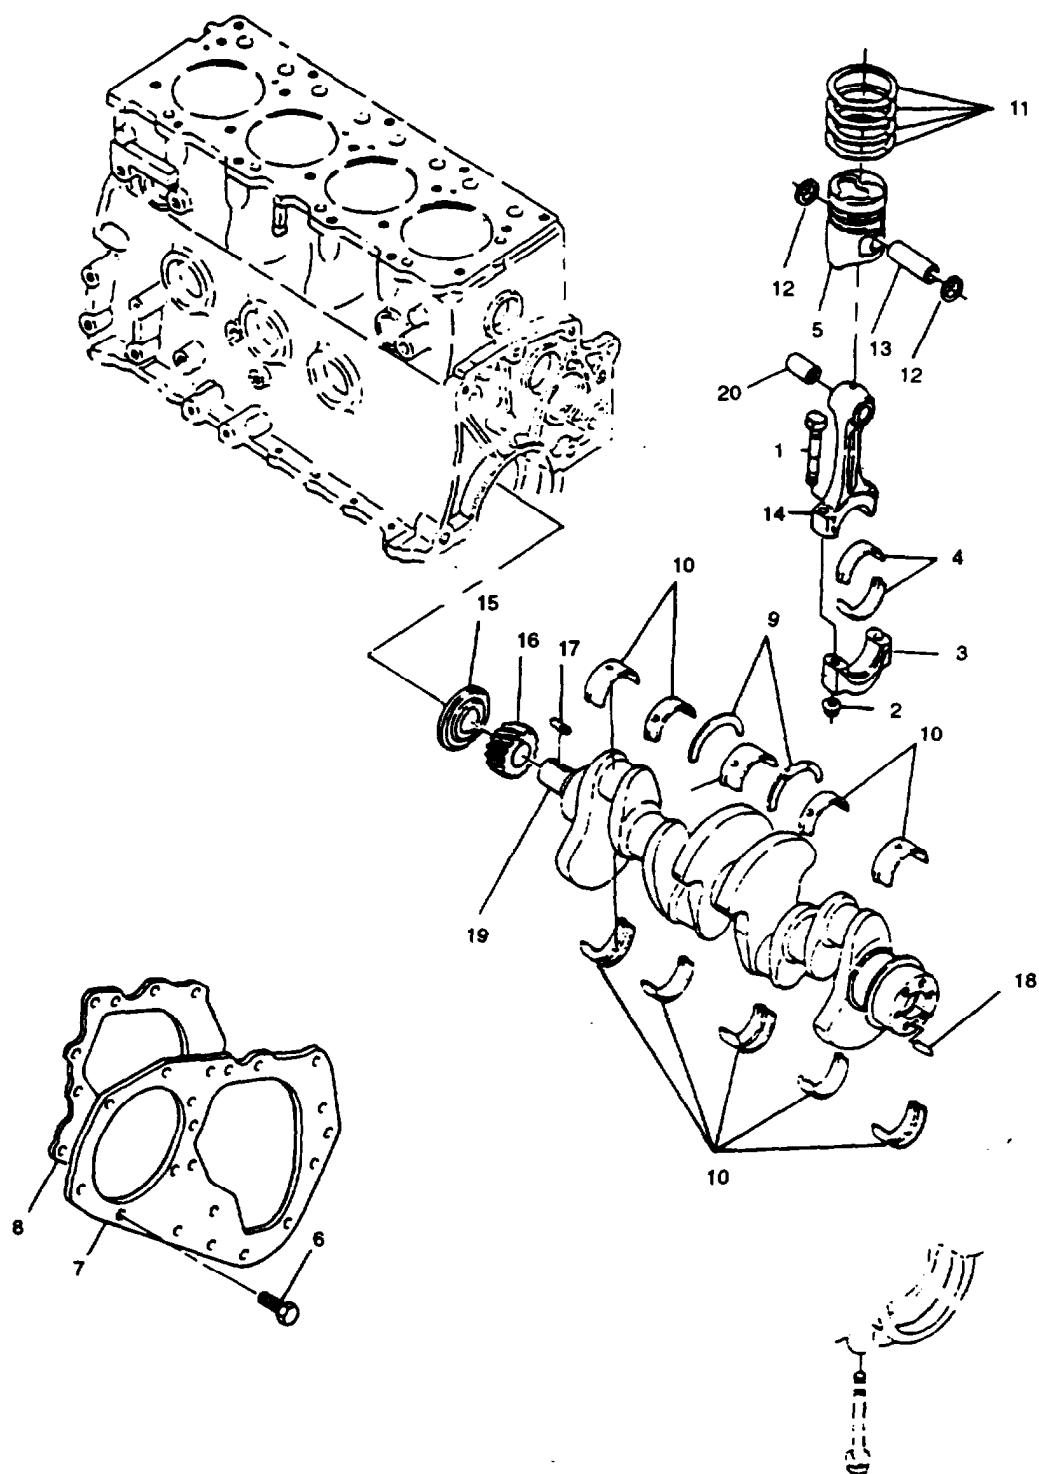

FIGURE 3-77. Pistons, Connecting Rods, and Crankshaft
- o. Remove two bolts (1, FIGURE 3-77) and nuts (2) securing connecting rod bearing cap (3). Remove lower half d bearing cap (3) and connecting rod bearings (4).
- a. Clamp piston connecting rod (14, FIGURE 3-77) in a softjawed vise.
- (1) Use an inside micrometer to measure piston pin hole in piston.
- (2) Stand& piston pin hole ID is 1.0525 to 1.0628 in. (26.938 to 25.997 mm). The clearance limit between pin and pin hole is 0.0 to 0.0002 in. (0.0 to 0.095 mm).
- (3) If clearance exceeds limit, replace raplace piston.
- (4) Use an inside micrometer to measure small end bushings (20, FIGURE 3-77). Replace bushings if ID is not within 1.0633 to 1.0635 in. (27.998 to 27.015 mm).